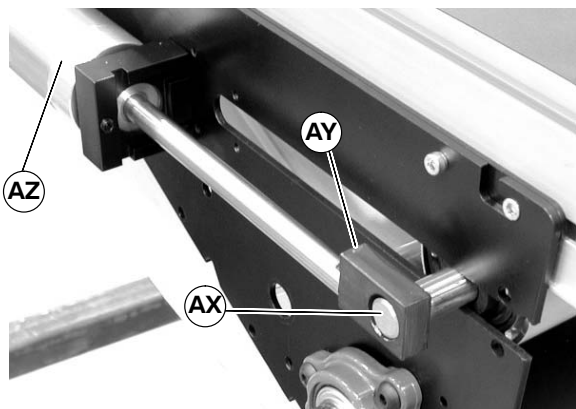

Figure 65
6. Push shaft (AX of Figure 65) through block (AY) on opposite side of center drive, slide block toward air cylinder (AZ).